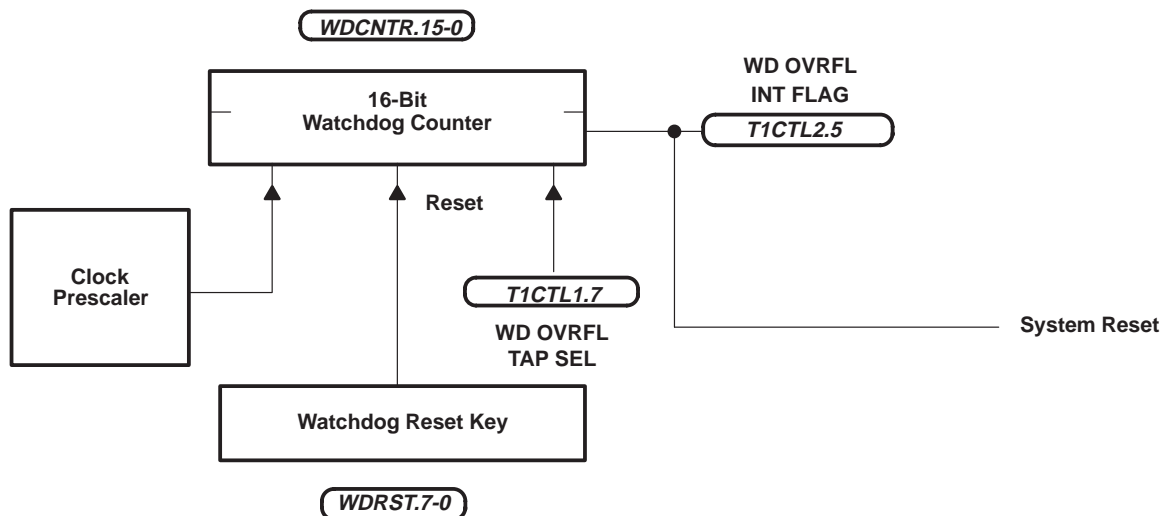

Figure 9. Hard Watchdog
- Hard watchdog configuration (see Figure 9) for 'C712B EPROM and mask-ROM devices: